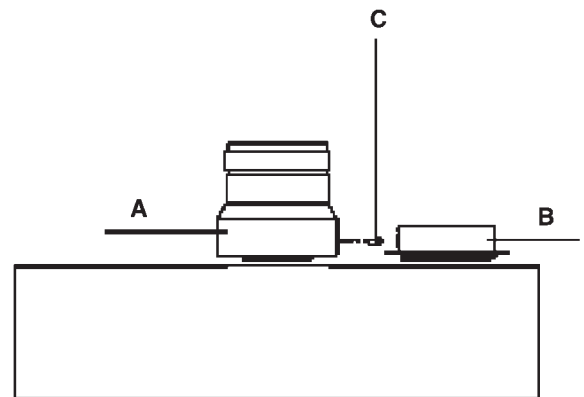

Fig. 17
5.5.3.1 Installation of twin adaptor kit (See fig. 17)
- Insert the exhaust connection manifold (A) onto the appliance flue outlet.
- Remove the blanking plate (located to the right of the appliance flue outlet) and – using the same screws – install the air inlet plate (B).
- Using the hole in the exhaust connection manifold as a guide, drill a 3mm hole in the appliance flue spigot and secure the exhaust manifold connection to the flue spigot using the screw provided (C).